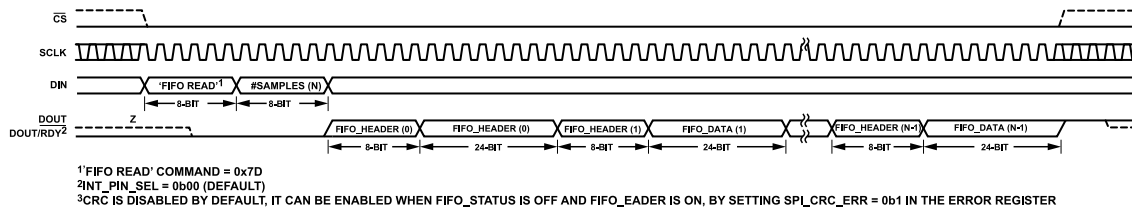
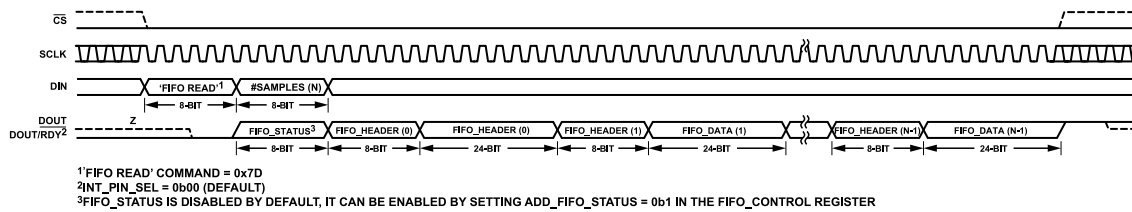

Figure 103. FIFO Readback Default (FIFO_STATUS Append Off and FIFO_HEADER Append On)
Figure 104. FIFO Readback (FIFO_STATUS Append On and FIFO_HEADER Append On)
By default, the FIFO_HEADER is enabled and the FIFO_STATUS append is disabled, so the FIFO readback diagram looks as Figure 103. If the FIFO_STATUS append is enabled, the FIFO readback diagram looks as Figure 104.
The FIFO_STATUS register content (see Table 69) can be enabled to be added and read before the FIFO_DATA and during the # samples (N) byte (see Figure 104), by setting ADD_FIFO_STATUS bit to 1 in the FIFO_CONTROL register (see Table 67). This way, the user can detect an error earlier on and abort the FIFO_DATA readback.